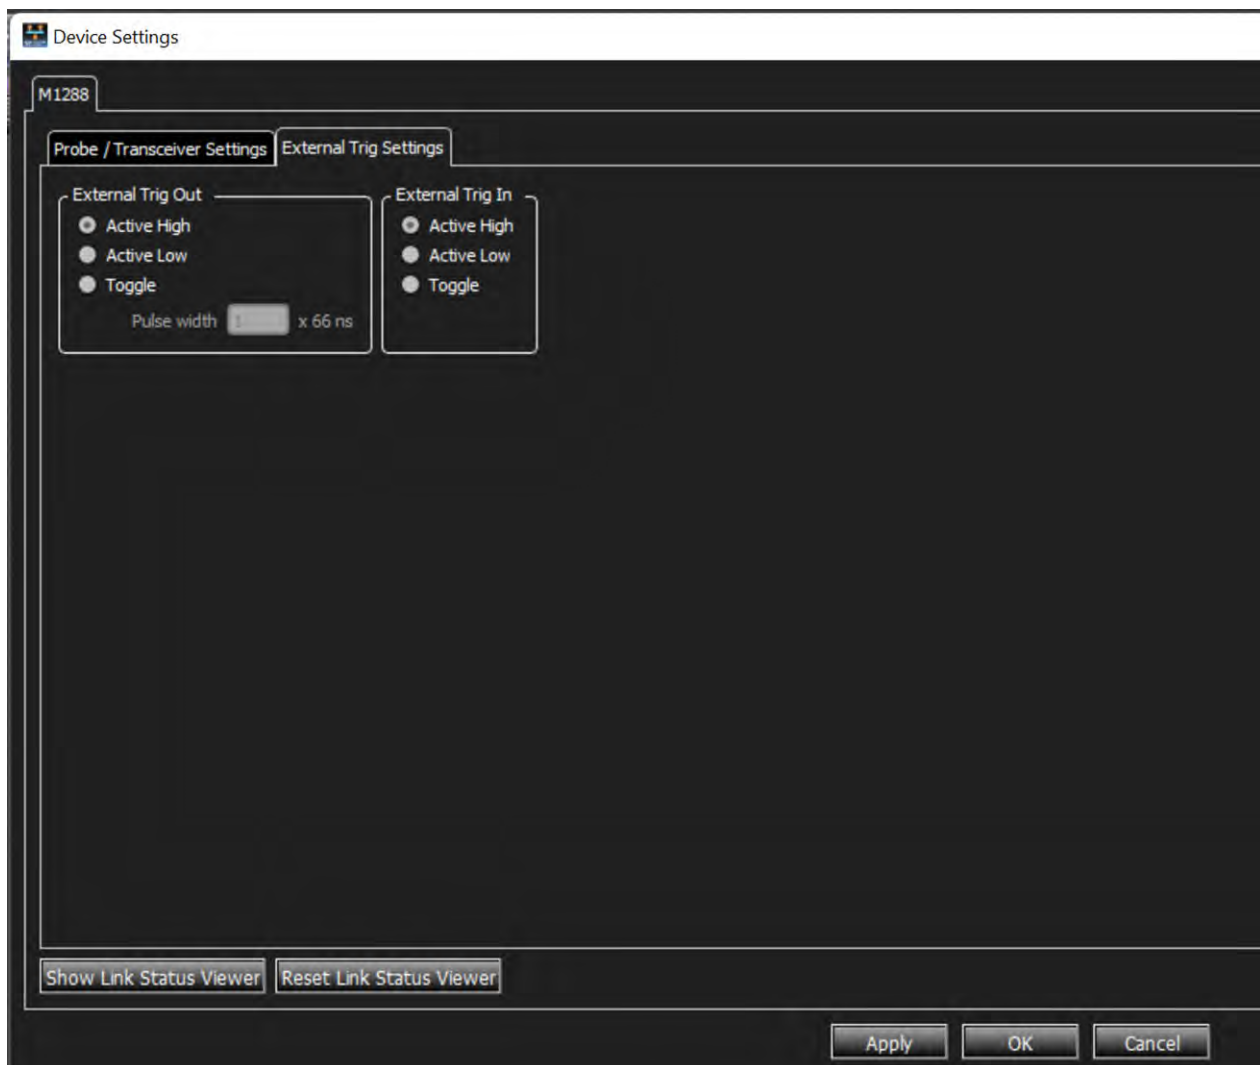

Figure 4.5: External Trigger Settings
- External Trigger settings (see Figure 4.5)